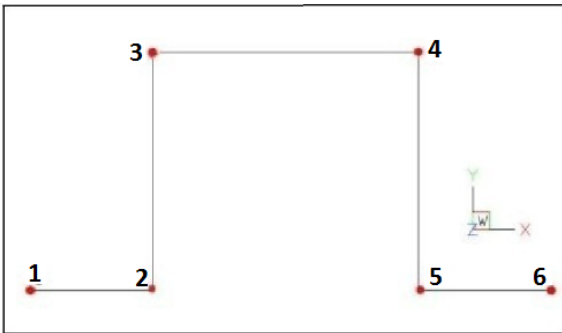

Fig. 76 – the path of the walls contour
- the picture below presents the path for walls (Fig. 76): 1 – start point of the path, 2, 3, 4, 5 – points in consequent corners of the room, 6 – the final point of the path;